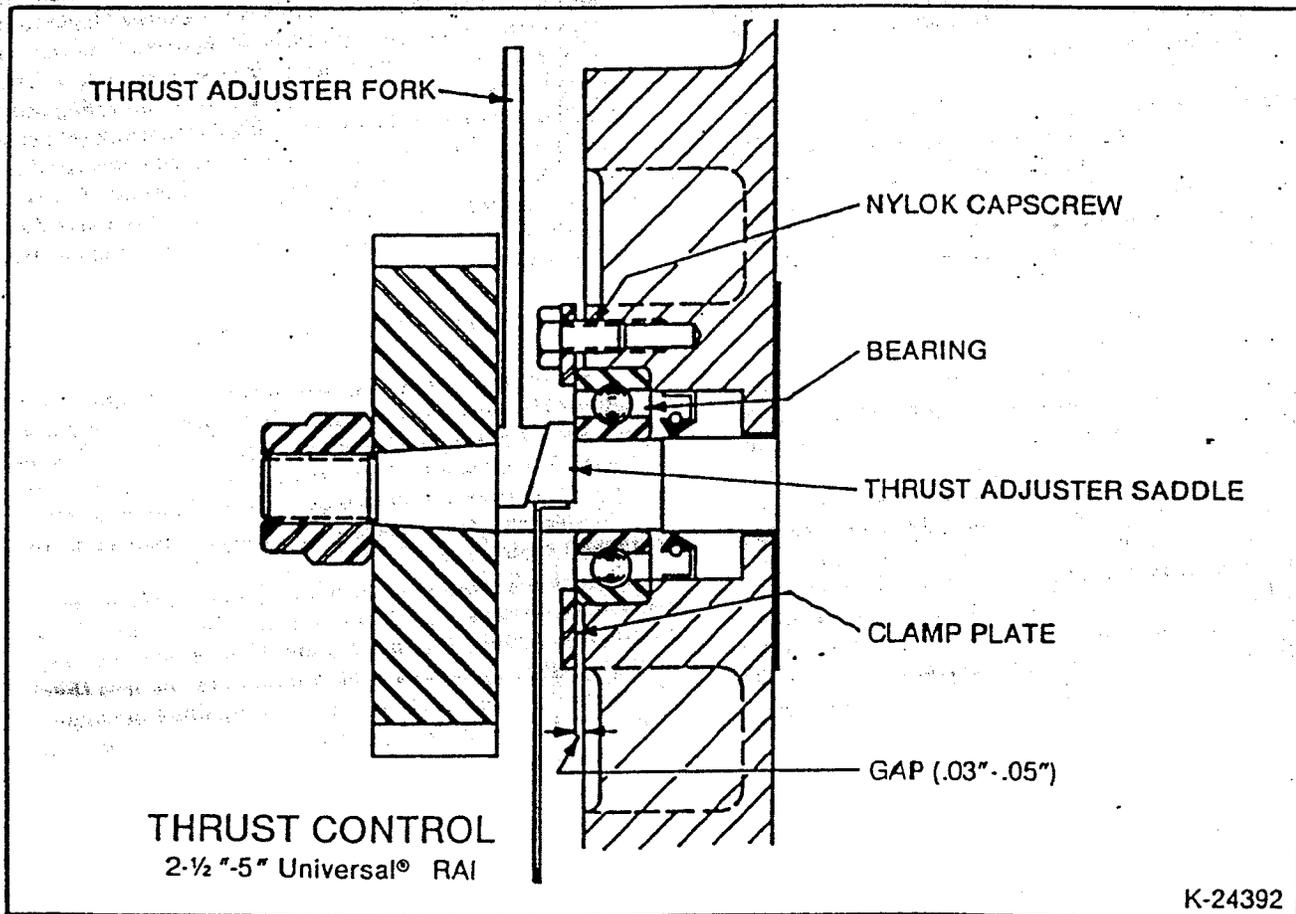
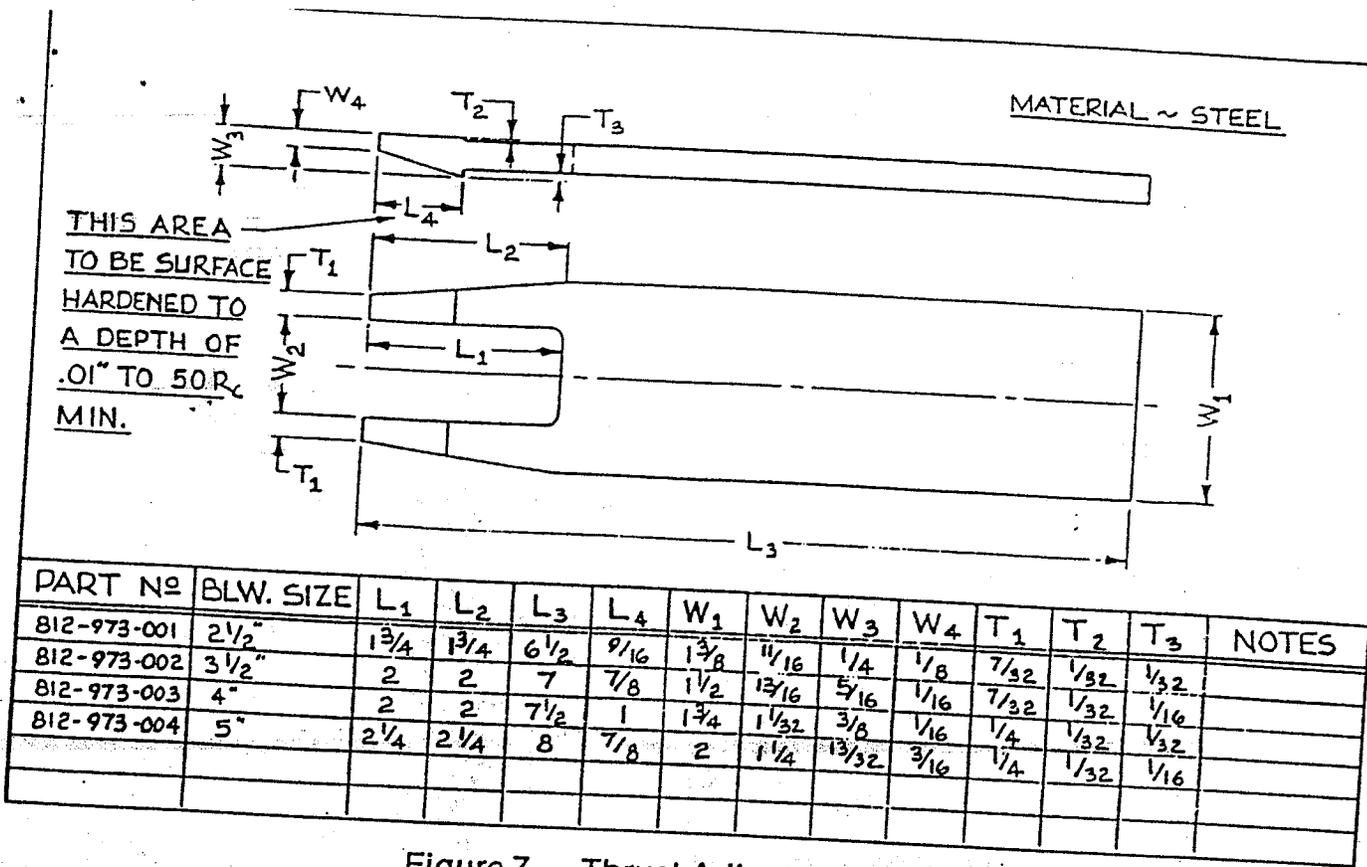
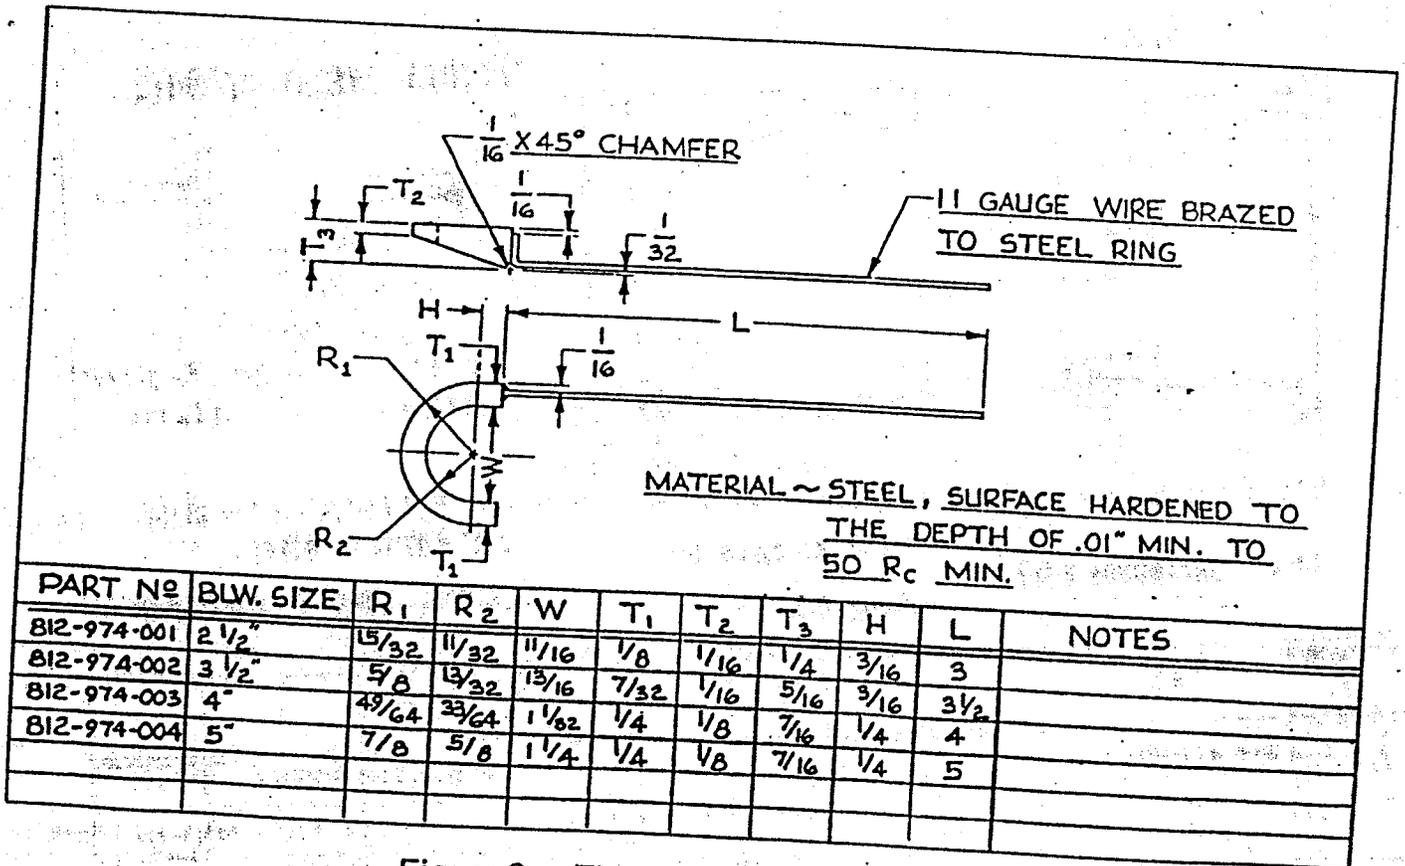

Figure 6 — Thrust Setting, 2 1/2"-5" Universal® RAI
Figure 7 — Thrust Adjuster Fork
Figure 8 — Thrust Adjuster Saddle
11. Place blower on its feet on a flat surface. Loosen feet capscrews (32) and square up unit. Re-tighten capscrews (32). Clamp unit down to a solid base for further assembly.
12. Oil the gear end bearing fits as described previously. Install 2½-5" Universal® RAI gear end bearings flush with the headplate bearing shoulders using proper drivers. On 6" & 7" Universal® RAI, install thrust washer (29) in bearing bores then install gear end bearings so that they protrude ¼" (1.6mm) above headplate surface.
13. Install bearing clamp plates (34). On 6" & 7" Universal® RAI, impeller end clearances are also to be set during this step. Install clamp plates (34) with capscrews (31) making sure that the gap between the clamp plates and the headplate is even all around. at the same time, set end clearances per Table 5.
14. Install gears and time impellers as in (A).
15. For setting end clearances on 2½-5" gear diameter units, special tools, thrust adjuster fork Fig. 7 and thrust adjuster saddle Figure 8 are required. Refer to Fig. 6 for installation of tools. The flat side of the saddle rests against the bearing inner race and the flat side of the fork rests against the back side of the gear. Install a shim, with thickness equal to gear end clearance (Table 6), between the impeller and the gear end headplates. Tap on top of the fork until the shim becomes snug. Remove the shim and check end clearances. To increase gear end clearance, tap on the end of the gear end shaft with